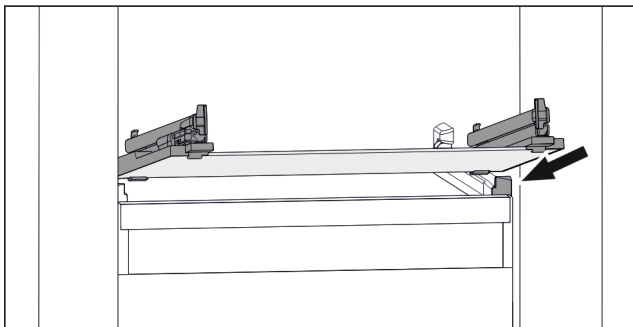

Fig. 51 Example illustration of glass shelf
- ▶ Position glass shelf at an angle behind the stoppers. (see Fig. 51)